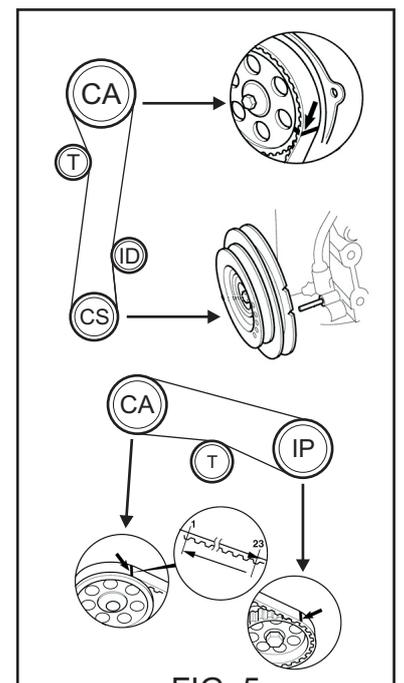

FIG. 5
- ④ Dismount the timing belt covers and turn the crankshaft until cylinder n°1 is positioned at TDC, then check timing marks are aligned [FIG. 5]. Next, dismount crankshaft pulley.
- ② Turn the tensioner anticlockwise and tighten tensioner bolt. Then, mount the timing belt.
- ③ Loosen tensioner bolt so the timing belt have the correct tension by the tensioner spring and rotate crankshaft turning it 4 times. Then fasten the tensioner with an allen key and tighten the tensioner bolt (40 Nm).
- ④ Fit the injection pump belt in the same way and check the timing marks are aligned [FIG. 5].